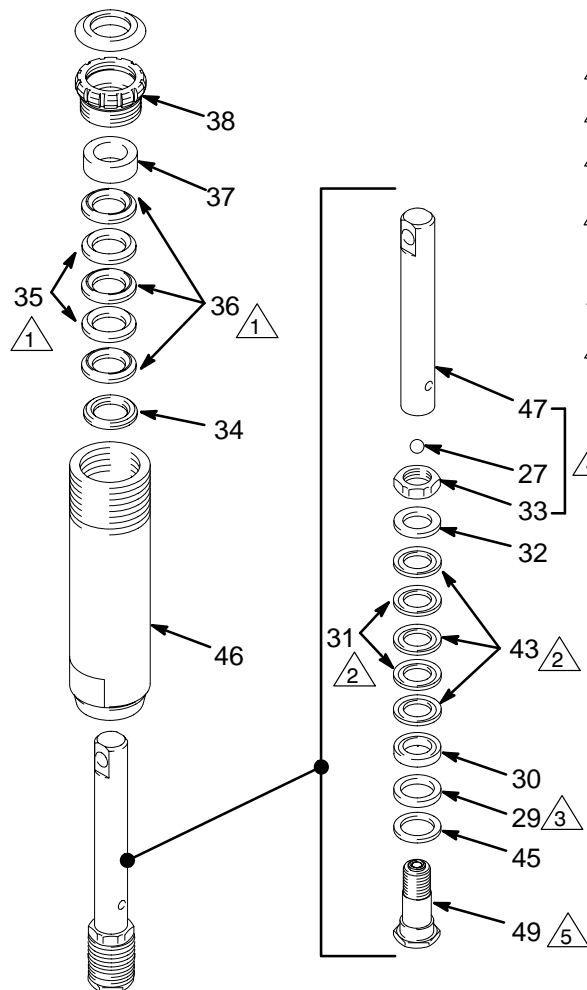
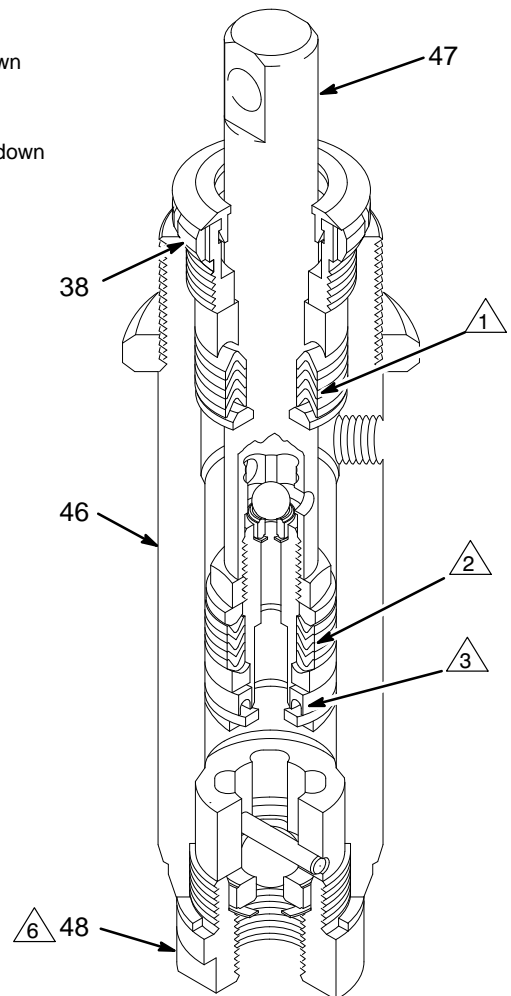

Fig. 8
Fig. 9
3. Unscrew and remove the packing nut (38). Using a rubber mallet, tap the piston rod (47) down and pull it out through the bottom of the cylinder (46). See Fig. 8 and 9.
6. Clamp the flats of the piston rod in a vise. Use a wrench to loosen the nut (33) and unscrew the piston valve (49) from the piston rod. Remove the ball (27), nut (33), glands (30 & 32), packings (31 & 43), seal (29), and washer (45).
ing the leather and plastic packings. See Fig. 8. The "V" of the packings must face up against the fluid pressure. See Fig. 9. Tighten the nut (33) to 10.5 in-lb (1.2 N.m) to seat the packings, then back off the nut and hand tighten it.
3. Place a new ball (27) in the piston rod (47). Apply locking compound to the threads of the piston valve (49) and screw it into the rod hand tight, 1–2 in-lbs (0.11–0.22 N.m) torque. Tighten the nut against the piston rod to 18–20 ft-lb (24–27 N.m) torque, without changing the tightness of the nut against the packings.
4. Install the throat packings, glands and packing nut, leaving the packing nut loose. The "V" of the packings must face down against the fluid pressure. Alternate the plastic packings (36) and the leather packings (35). See Fig. 8.
5. Insert the piston rod (47) through the bottom of the pump cylinder (46).
6. Assemble and install the intake valve (48); torque it to 75–85 ft-lb (100–115 N.m). Tighten the packing nut (38) just enough to stop leakage—no tighter.